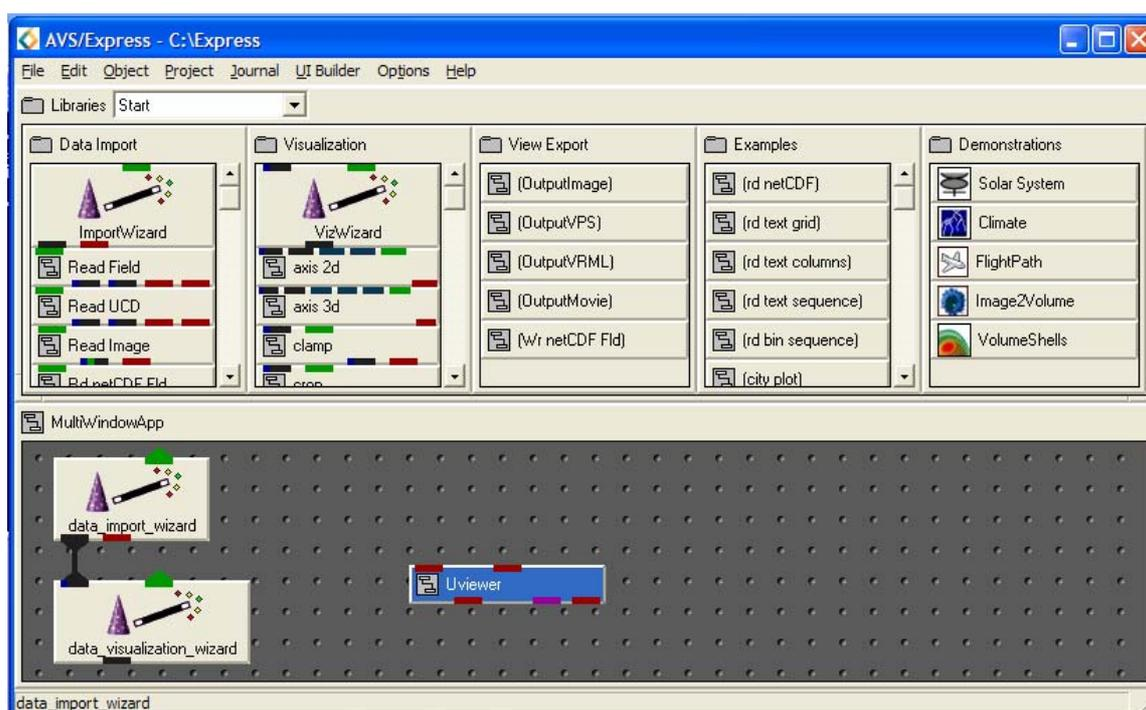

Figure 2.2: Network Editor in the Start Library
- At the start-up of AVS/Express the Network Editor is in the Start Library (Figure 2.2). This library enables new users to create and master AVS/Express applications quickly. The **Data Import**, **Visualization**, and **View Export**, sub-libraries provide a means for new users to create simple applications.